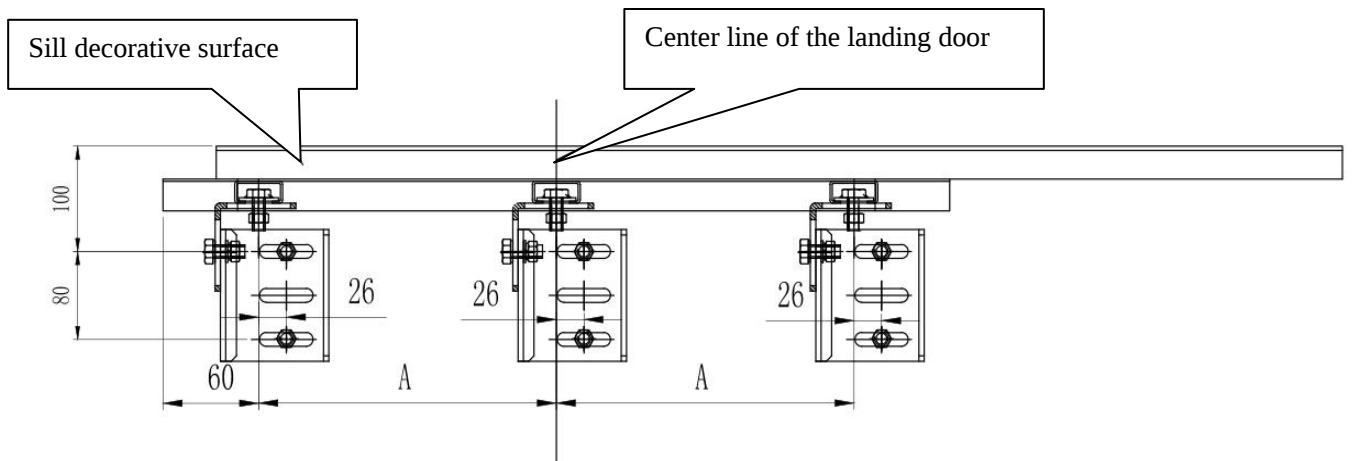

Figure 5-2-1
- 1) Assemble the sill of car door, refer to Figure 5-2-1. Use a hammer suspension wire to find the center line of the landing door and the ground plane of the landing door. Use a percussion drill and drill 16 hole as shown in the figure (for M12 expansion bolts);